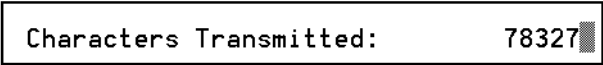

Figure 2-37. Characters Transmitted Window
- The system displays the Characters Transmitted window (Figure 2-37).